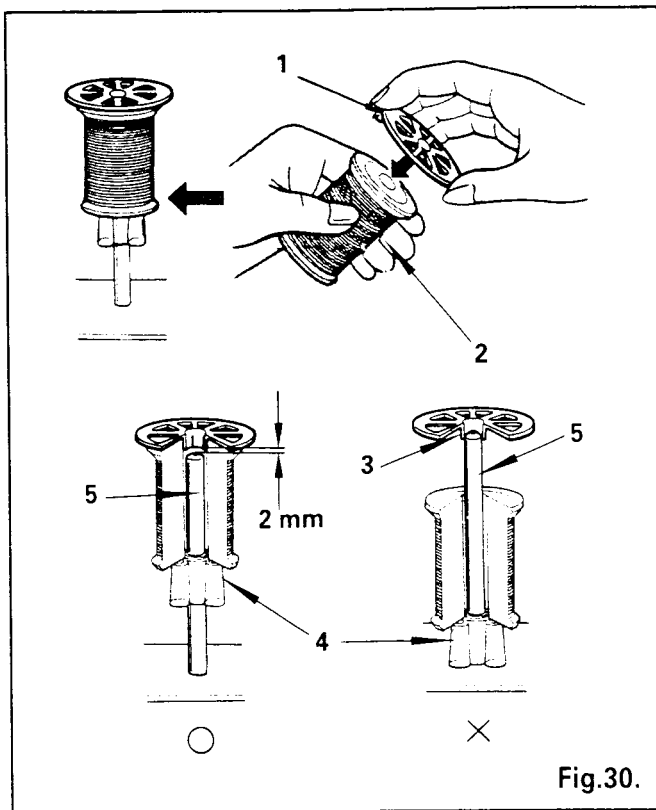

Fig.30.
When using a reel type thread spool, fit the spool cap (1) supplied with the machine onto the thread spool (2), Fig.30.
Set height of spool rest (4) so there is approximately 2 mm clearance between top end of spool pin (5) and the tip of the slotted spigot (3) of the spool cap. (See Fig.30)
The spool cap should never be fitted on the spool pin. Forcing it onto the spool pin may result in breaking the slotted spigot of the spool cap. (See Fig.30)